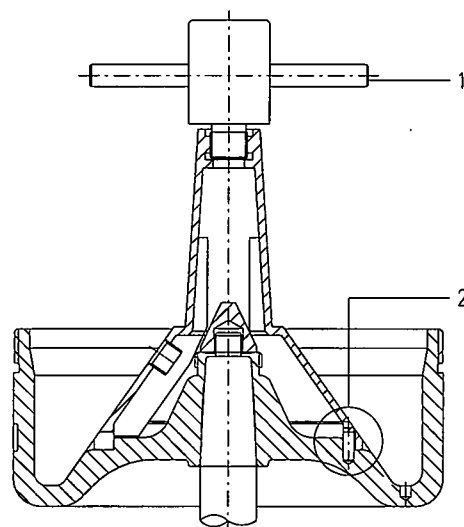

Figure 6.4
- 4) By the spanner (09.080.0) place down the **distributor** (fig. 6.4, part 1), so that the guide pin of the bowl body enter correctly into the corresponding seat in the distributor (fig. 6.4 part 2).